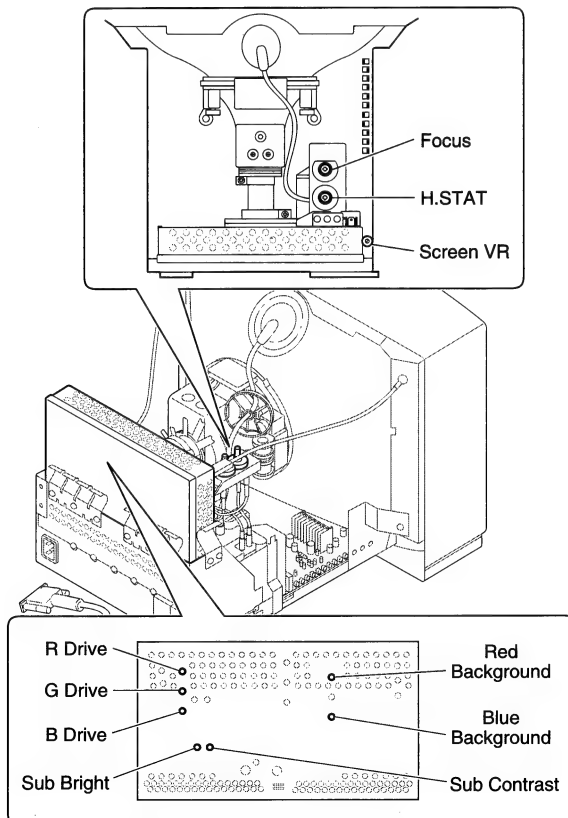

Figure 6 Focus, Convergence, and Video Controls
2. FIGURE 6. Turn the FOCUS control on the H.STAT focus control board for best overall focus.
2. FIGURE 6. Turn the H.STAT control on the H.STAT focus control board until the red and blue vertical lines are aligned as precisely as possible.
2. FIGURE 6. Using the fine-tipped insulated screwdriver, set the following controls on the CRT video board to the middle of their adjustment range:
3. FIGURE 6. Using the fine-tipped insulated screwdriver, preset the Red and Blue Background controls to minimum (turn fully clockwise).
4. FIGURE 6. Adjust the Screen VR (RV508) control on the main board until the first (darkest) bar is completely black. If the screen does not display a predominant green tint, recheck the control settings in steps 2 and 3.
1. FIGURE 6. Using the fine-tipped insulated screwdriver, slowly turn up (counterclockwise) the Blue Background control until the darkest six bars display a blue-green tint.
2. FIGURE 6. Slowly turn up (counterclockwise) the Red Background control until the darkest six bars display different shades of gray. No color tint should be visible in the gray bars.